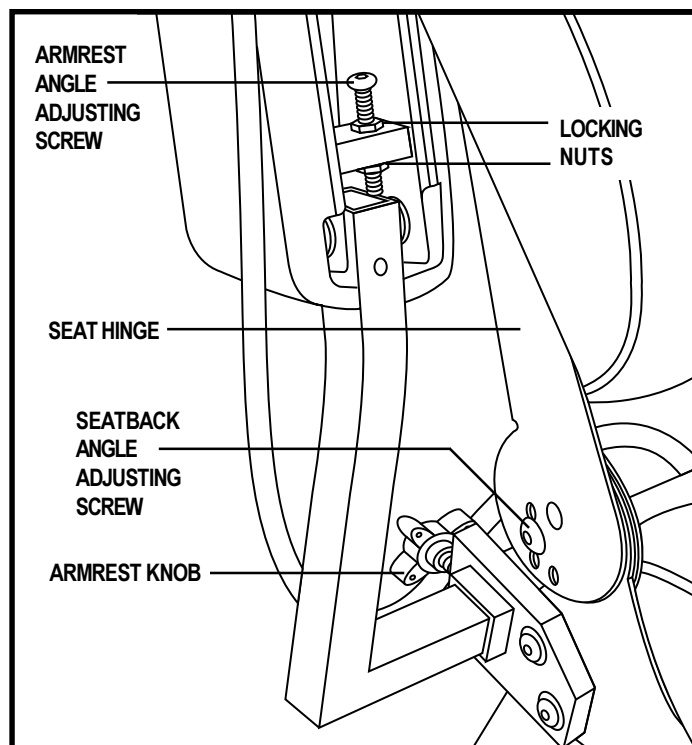

Figure 19. Seatback Angle Adjustment
1. Remove the seatback angle adjusting screw from each seat hinge. See figure 19.
1. Locate the armrest knob on each side of the armrest receiver bracket. See figure 19.
1. Lift the armrest straight up so that it is perpendicular to the floor. See figure 19.